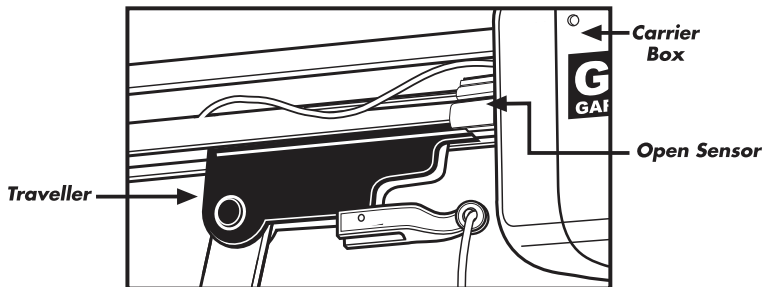

Figure 12
2. Referring to Figure 12, move the “open” sensor (sensor closest to the carrier box) until it aligns with the traveler assembly.